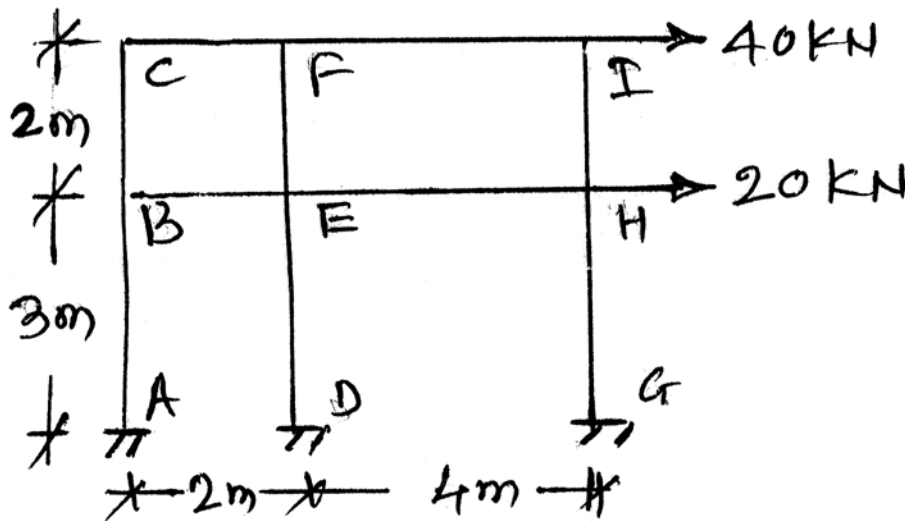

Fig. 3, Q. 11(a)
11. a) A rigid jointed 2 bay - 2 story frames is shown in the fig 3. Using Cantilever method, determine support reactions and moments. Area of column ABC = A and Area of column DEF & GHI = 2A. 8
12. a) A rigid jointed 2 bay – 2 story frames is shown in the fig. 3. Using portal method, determine support reactions and moments. Area of column ABC = A and Area of column DEF and GHI = 2A. 8